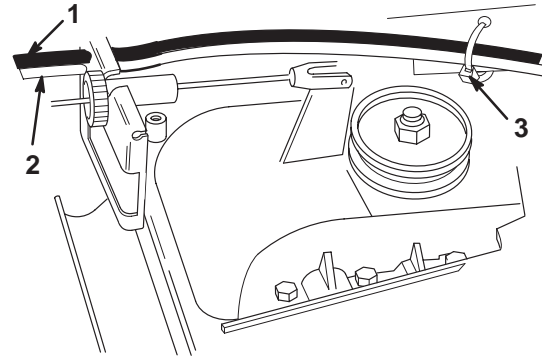

Figure 12
10. Fasten the throttle cable and the blade brake clutch cable together to the lawn mower housing with a cable tie to prevent them from contacting the gear box belt guide (Fig. 12). **Do not secure the cables tight against the lawn mower housing.**